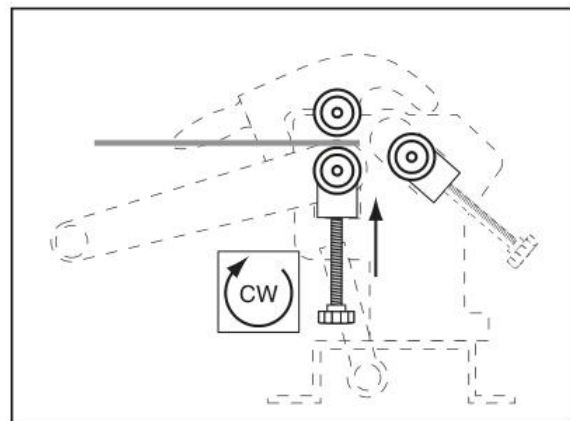

Figure 10
1. Place the workpiece between the top and bottom rollers, as shown in figure 10. Turn the thickness adjust knob to lift the bottom roller until the workpiece is held snug between the top and bottom rollers. Be sure to turn the thickness adjust knob on both ends of the roller equal amounts.